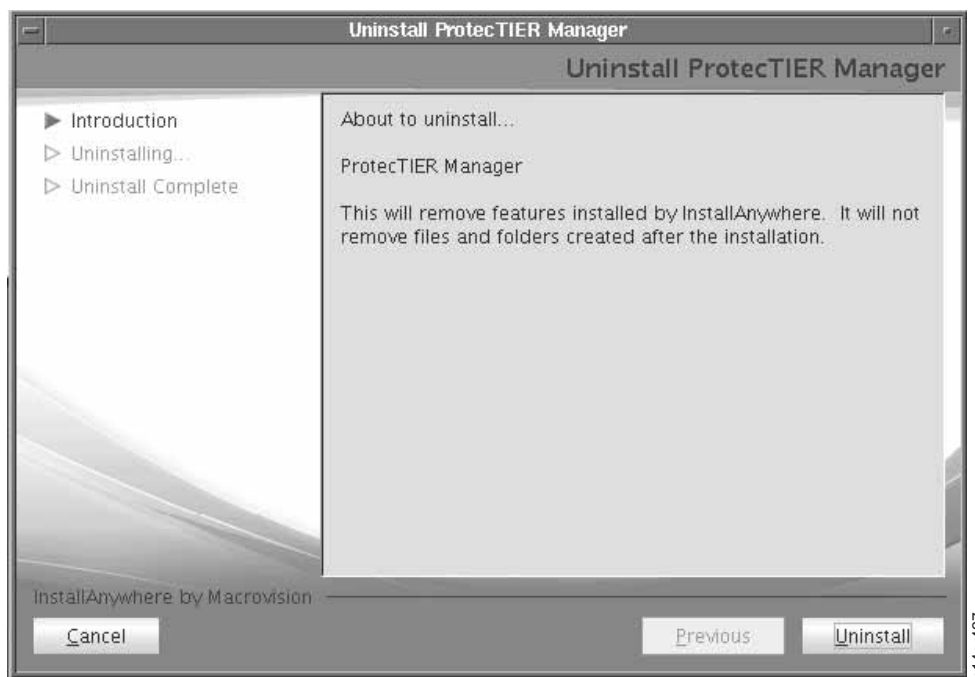

Figure 2-82. Uninstall ProtecTIER Manager Window
4. The uninstall program will launch and you will see the Uninstall ProtecTIER Manager window shown in Figure 2-82. Click **Uninstall**.